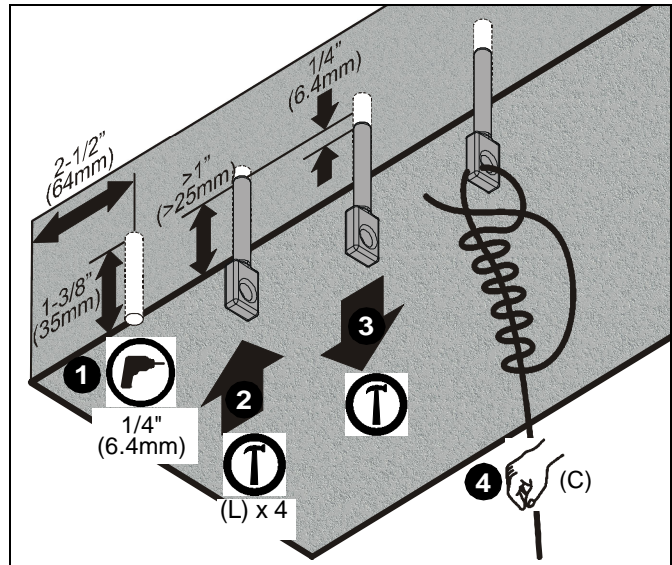

Figure 8
1. Drill 1/4" (6.4mm) diameter x 1-3/8" (35mm) deep hole at each of the four marked wire anchor support locations. (See Figure 8) Ensure hole is at least 2-1/2" (64mm) from nearest concrete edge. Remove debris from hole.
2. Tap anchor (L) into each hole to a depth of at least 1" (25.4mm). (See Figure 8)
3. Using claw portion of hammer, set each anchor (L) by pulling it out of hole approximately 1/4" (6.4mm). (See Figure 8)
4. Insert support wire (C) through hole in anchor. Twist wire tightly around itself at least four complete turns, and then thread loose end between anchor and first turn. (See Figure 8).